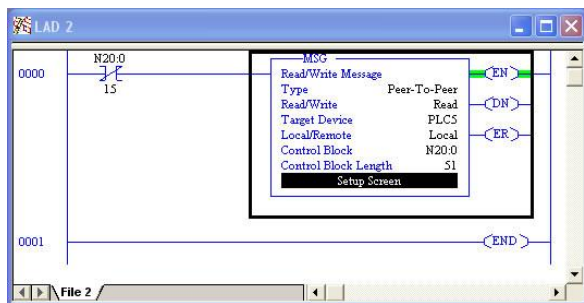

Figure 62: Completed PLC Program
7) The program is now complete. Refer to Figure 62.